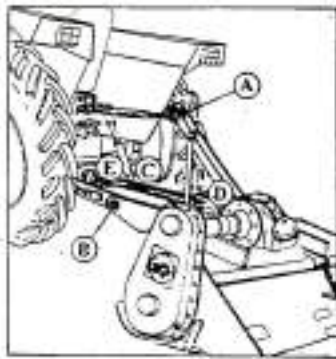

Figure 4. Shredder aggregation procedure.
3. Attach the upper tractor lever - topling to the upper point carrier on the rotary chopper (Fig. 4, item A).
8. When you have previously attached the tool to the tractor, it is necessary to bring the gear unit shaft to a horizontal position, by extending or shortening the upper tractor lever (topling) as shown in Figure 4.
2. . Sitting on the seat, detach the end of the upper tractor lever (topling Fig. 4, item A) from the tractor, moving the tractor slowly forwards or backwards if necessary to make it easier to pull out the axle.
3. Remove the PTO shaft front joint from the tractor PTO shaft (Fig. 4, Item E).
4. Detach the right lower tractor lever, where you can also use the leveling lever on the tractor in order to facilitate the whole process of detaching this lever (Figure 4, item D).
5. Detach the left lower tractor lever (Fig. 4, item B).